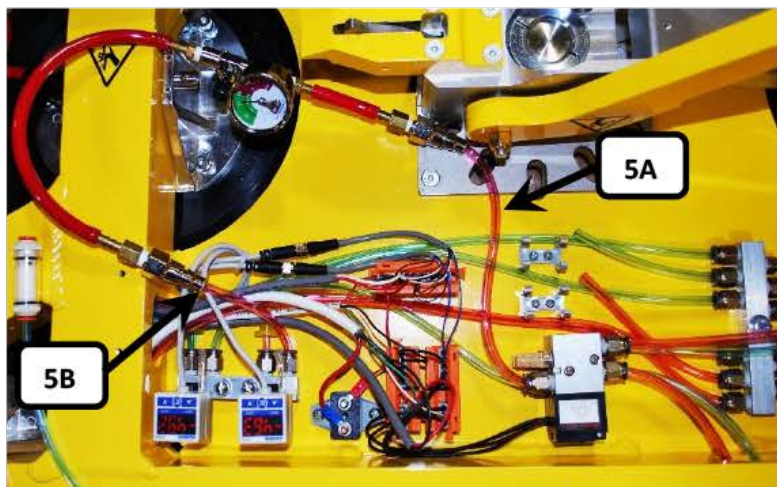

FIGURE 5
- Using additional hose and fitting adapters (5B), attach the other end of the ball valve to the vacuum switch manifold. See **FIGURE 5**.
- Allow the vacuum system to shut off automatically and, with the lifter still on and in apply mode, close the ball valve (turn handle perpendicular to valve) as shown in **FIGURE 5**.